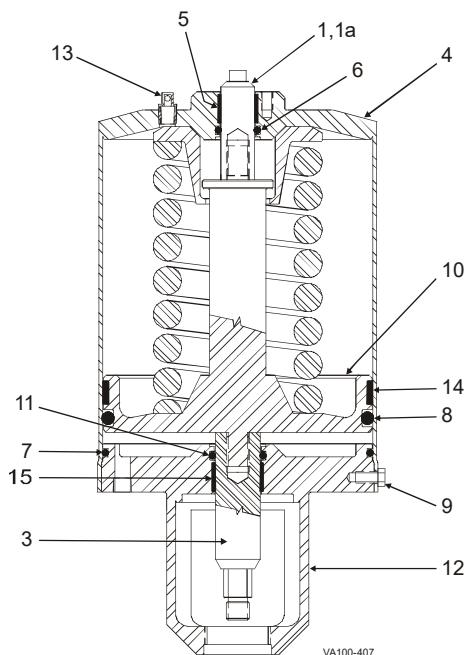

Figure 37: 6" Actuator
1. Inspect the piston O-ring seal (Figure 37, item 8).
2. Remove the worn O-ring seal. Do not score or nick grooves in the piston (item 10).
5. Inspect and replace the PTFE guide bearing (item 14) on the piston as needed.
7. Place the cylinder over the yoke, and install cap screws (item 9) to secure it.